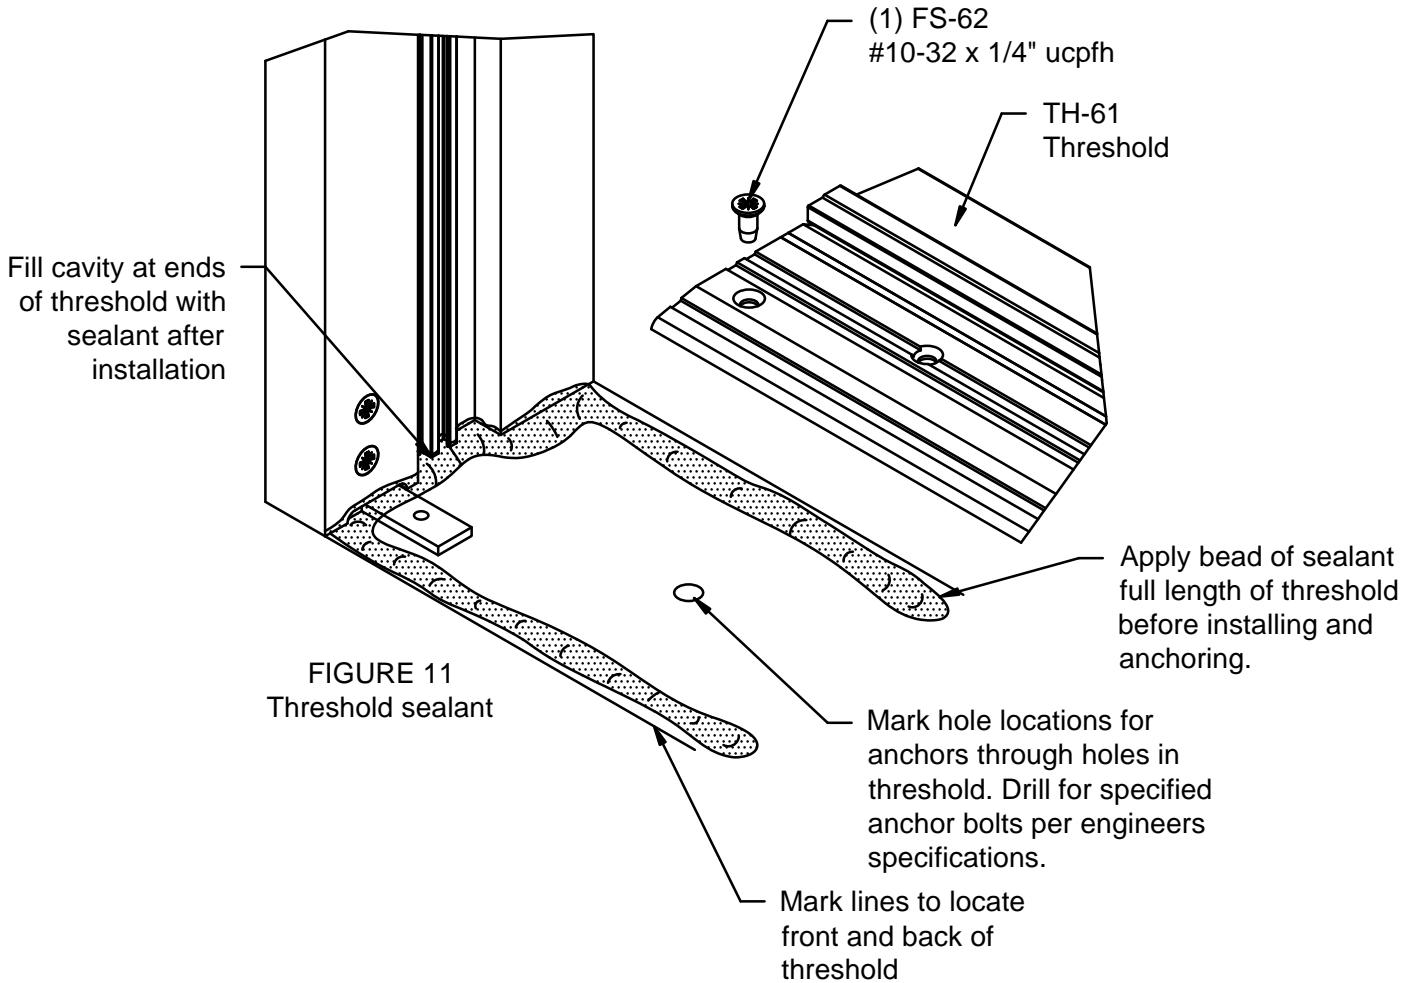

FIGURE 11
5. Mark the concrete through the countersunk holes in the threshold and along front and back edges of threshold. See FIGURE 11, pg 14.
7. Run bead of sealant along front and back edges beneath threshold using lines marked along front and back. See FIGURE 11, pg 14.